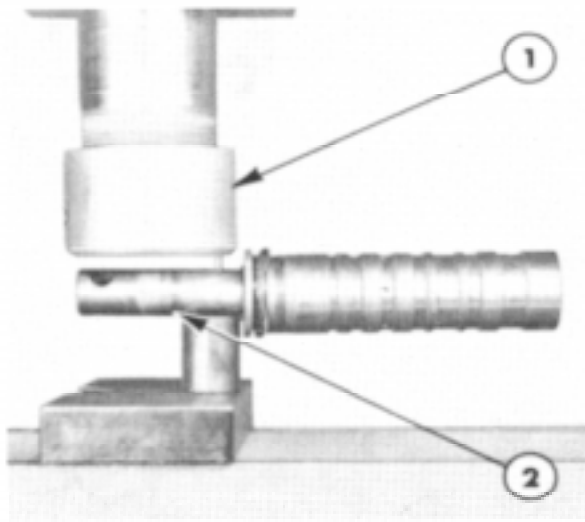

Figure 19
14. Press the pin flush with the outside diameter of the input shaft, Figure 19. With a few light taps on the 0.12 in. (3 mm) diameter pin punch, drive the pin approximately 0.03 in. (0.76 mm) below the input shaft outside diameter.